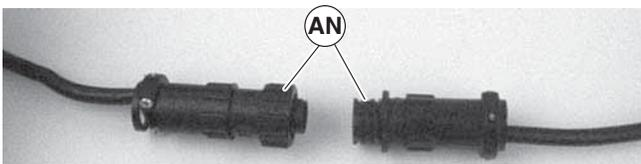

Figure 24
3. For DC variable speed motor, unplug motor cord at disconnect (Figure 24, item AN).